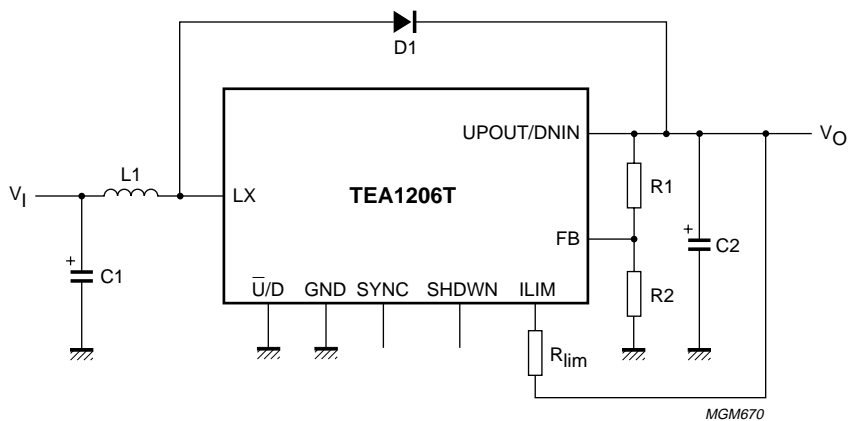

Fig.6 Complete application for upconversion.
- Upconversion (see Fig.6): the output voltage will exceed the high window limit if the input voltage is higher than this limit plus the voltage drop over the diode. In that case, the converter will stop switching and the external schottky diode will take over all current. The output voltage will be equal to V_i minus the diode voltage drop. The input voltage must not exceed 5.5 V. The current limit function is not active since all current flows through the external diode in this situation.